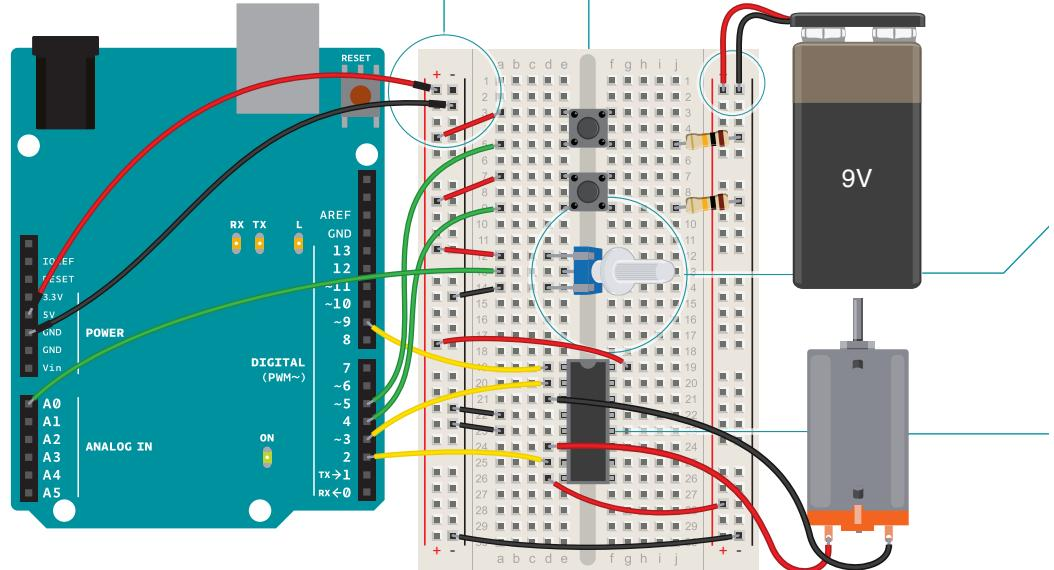

Fig. 2
- 4 Place the H-bridge on your breadboard so it straddles the center (see Fig. 2 for detail of placement). Connect pin 1 of the H-bridge to digital pin 9 on the Arduino. This is the enable pin on the H-bridge. When it receives 5V, it turns the motor on, when it receives OV, it turns the motor off. You will use this pin to PWM the H-bridge, and adjust the speed of the motor.